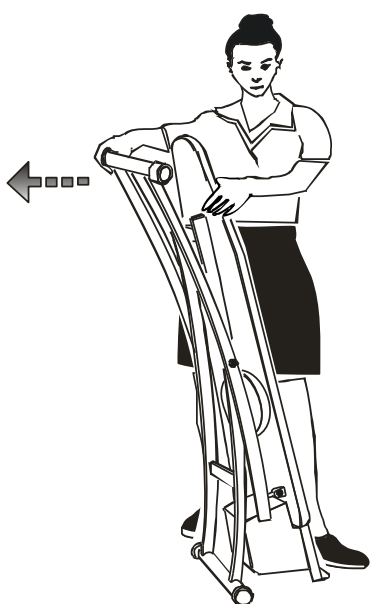

Fig. 2
2. Pull the board legs until the desired height has been reached (fig. 2);